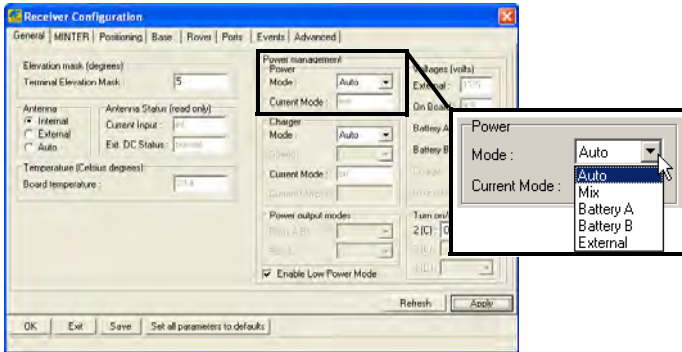

Figure 2-7. Select Power Mode
3. Select the **Power Mode** drop-down list to set the power source (Figure 2-7). **Current Mode** displays the current power source; if using the cradle, it will show "extbat."